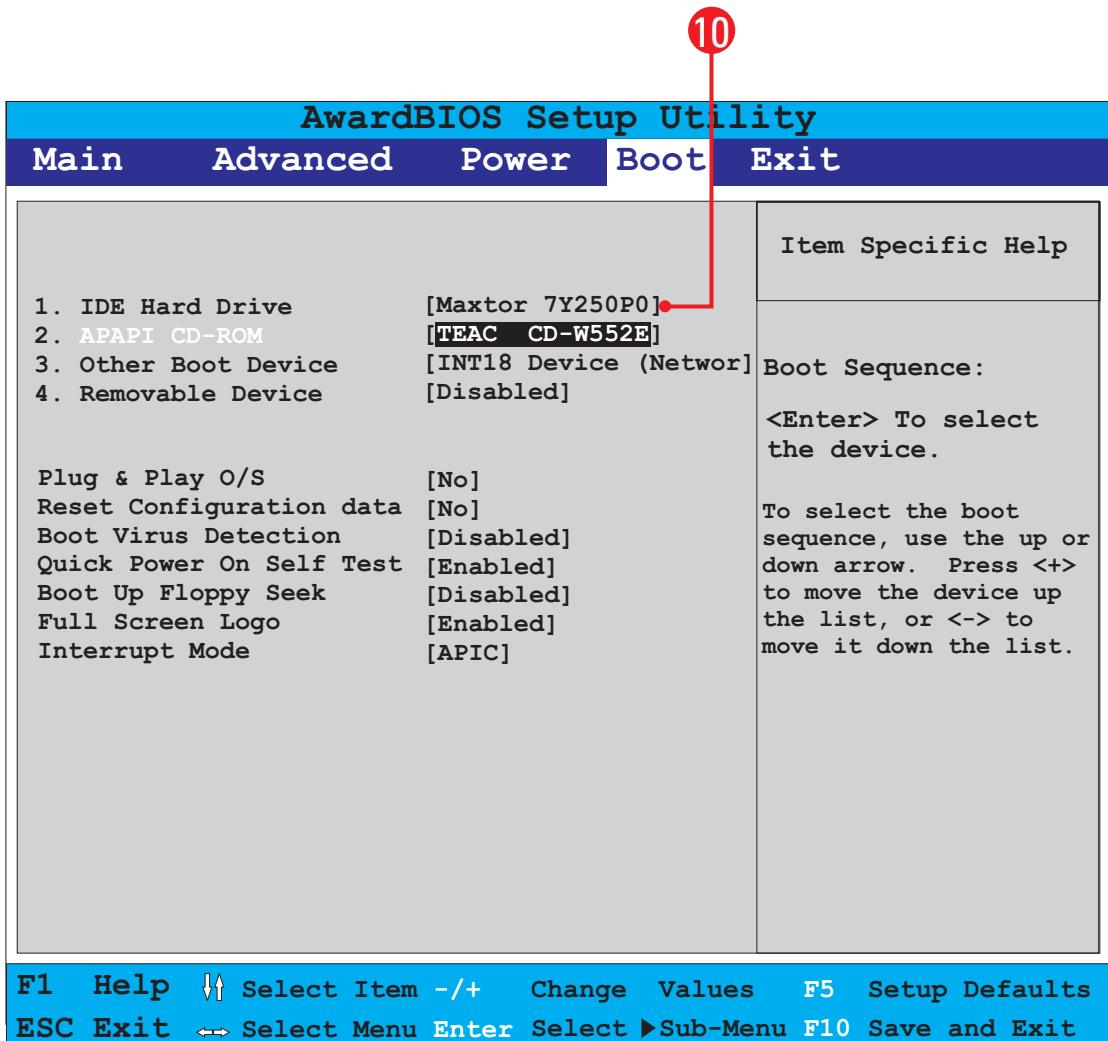

Figure 28. BIOS Boot Screen with Hard Disk Drive at Top
10. Press the minus (-) key on your keyboard to change the boot sequence from the CD/DVD drive back to the hard disk. The screen should look something like the example in Figure 28.